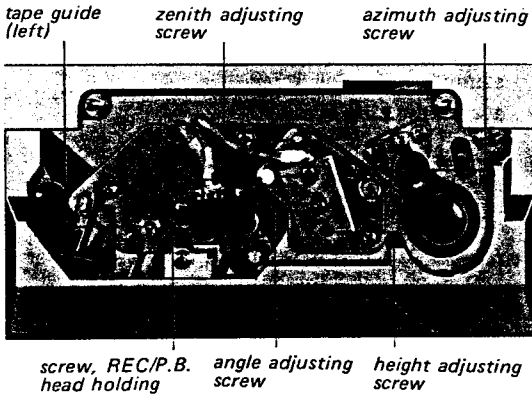

Fig. 9-2 Adjusting parts location (2)
- tape guide (left) See Fig. 9-2.
- (1) Thread a tape.
- (2) Align the upper edge of the tape just on the upper edge of the erase head core by turning the tape guide located on the left side of the erase head.
- (3) Turn the tape guide located on the left side of the erase head clockwise by approximately 35° from the position obtained in the preceding procedures, so that the upper edge of the tape is approximately 0.05 mm lower than that of the erase head core.
zenith adjusting screw } See Fig. 9-2.
azimuth adjusting screw } See Fig. 9-2
- (1) Be sure that the head is secured sufficiently to the head deck with the holding screw shown in Fig. 9-2, and the tape pass adjustment has been made.
- (2) Playback the 1st tone (10 kHz) of SONY alignment tape, J-19-F1 or J-19-K1.
- (3) Adjust the azimuth adjusting screw with a non-magnetic screw driver to obtain the maximum reading on the VTVM in both L-CH and R-CH.